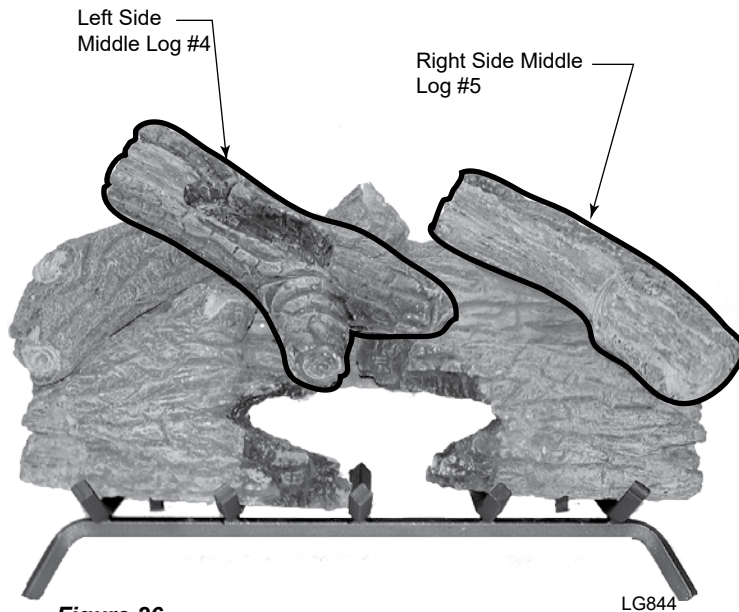

Figure 26 -
6. Place right side middle log #5 as shown. *Figure 26*
7. Place left top log #7 as shown. *Figure 26*